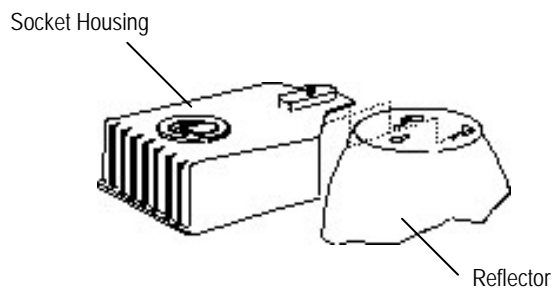

Figure 1
1. Attach socket housing to top of reflector by aligning screw on socket housing with keyhole slot in top of reflector and pushing socket housing forward (see Figure 1). Secure socket housing and reflector together by tightening the screw.